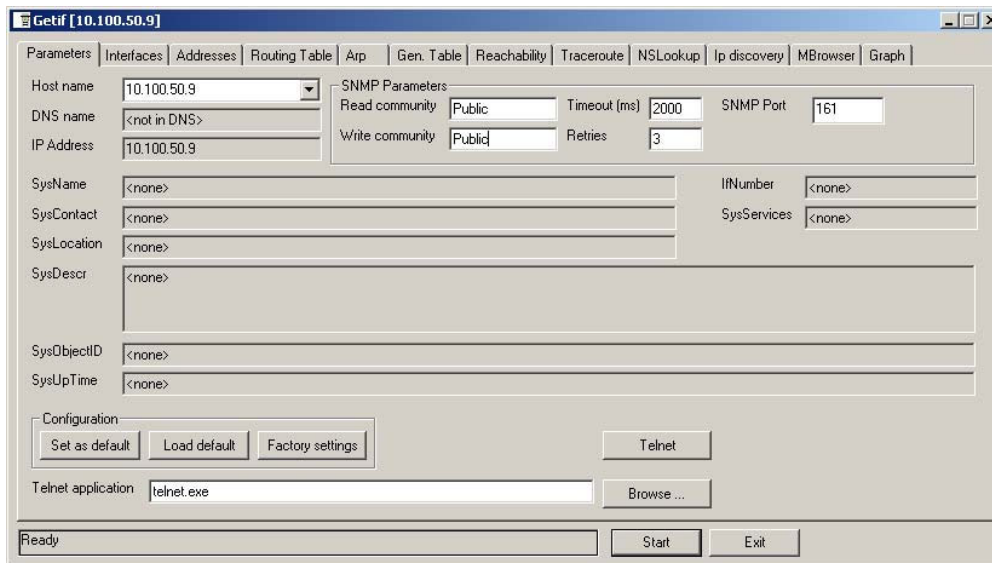

Figure 10: GetIf MBrowser Window
3. Select the unit IP address and community strings in the relevant text boxes on the Parameters tab (see Figure 10) and then click the Start button.